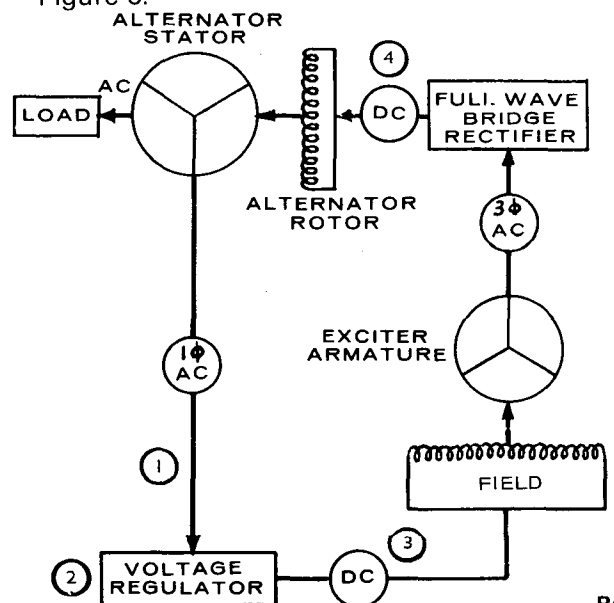

FIGURE 3. EXCITATION SCHEMATIC
4. The DC voltage is then applied to the main alternator as field excitation current. Refer to Figure 3.